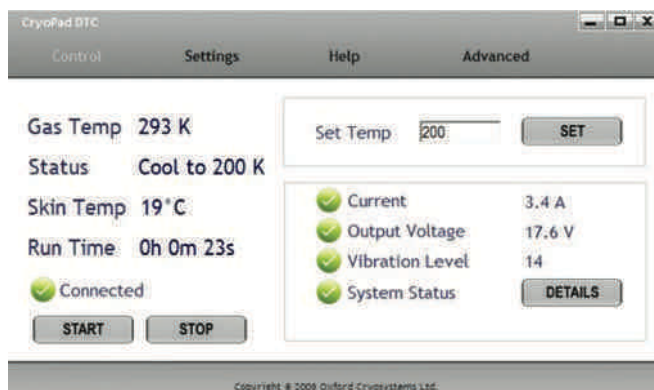

Figure 5 – CryopadDTC Control Screen (DTC Connected)
2. Select the Control tab (Figure 5).